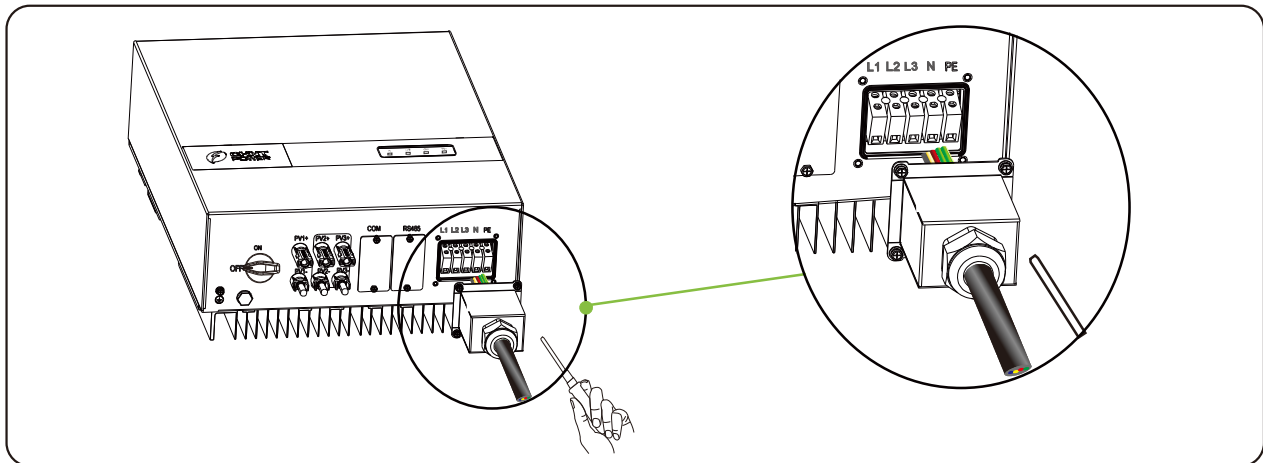

Figure 5.8 Tightening AC wiring cover
**Step 5** Aligning with the hole position on the AC terminal cover, tighten the locking cap using a torque wrench with a torque of 1.2 N.m, as shown in Figure 5.8.
**Step 6** Tighten the locking cap on the AC cable using a torque wrench with a torque of 5 N.m, as shown in Figure 5.8.